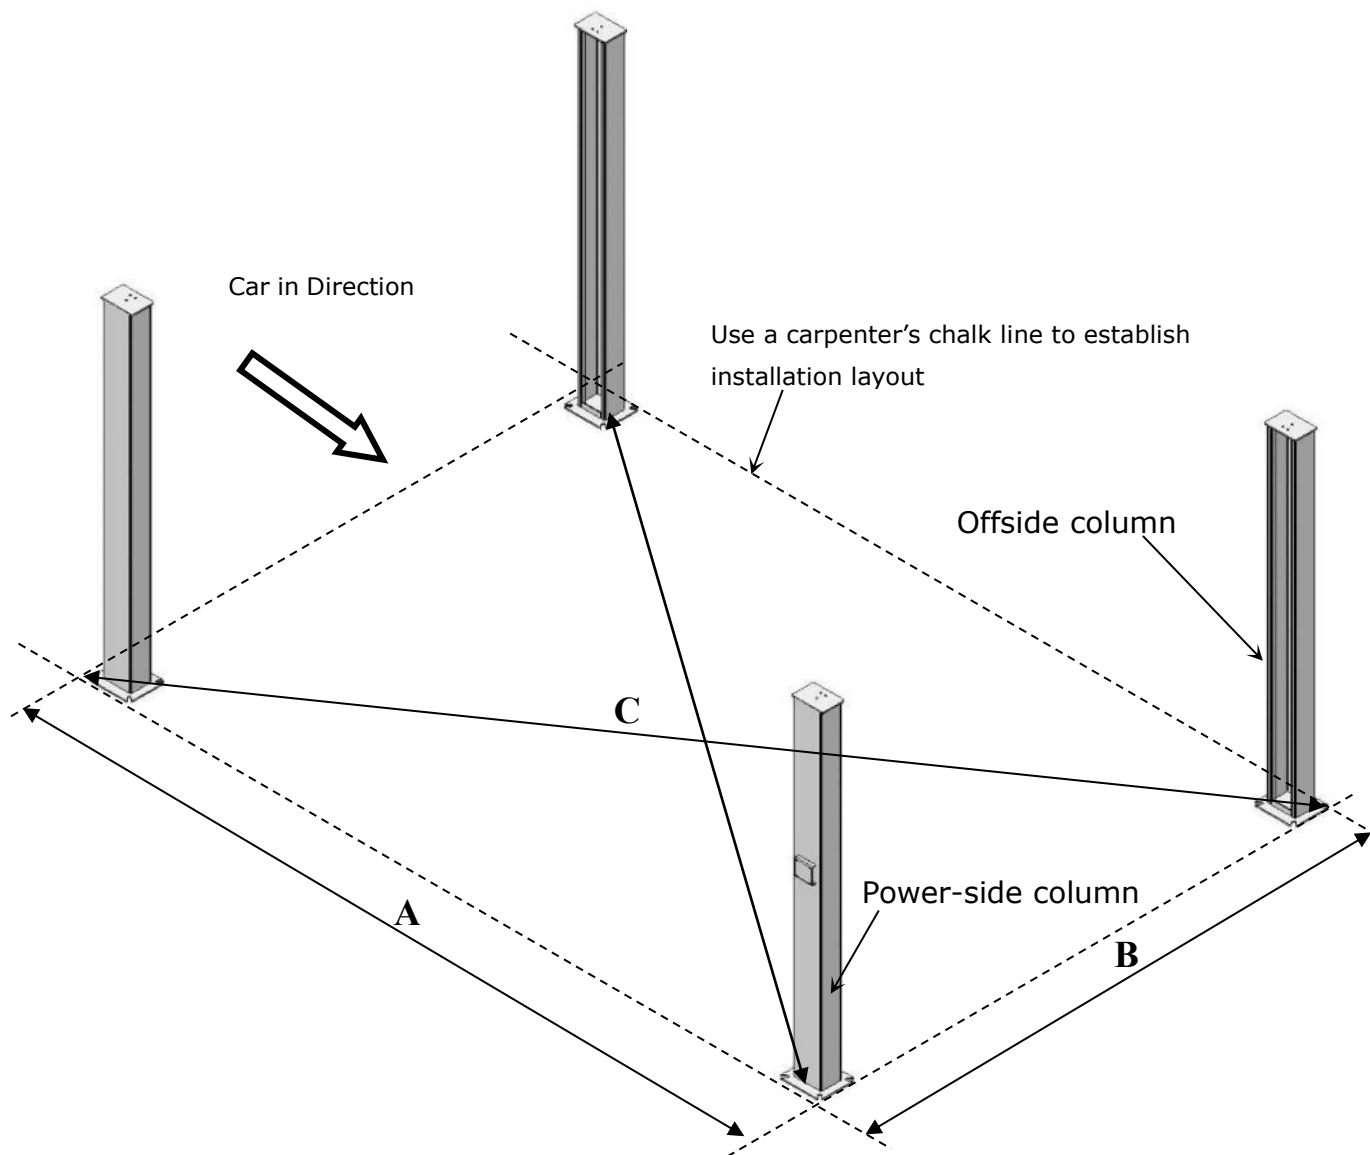

Fig. 12
C. Use a carpenter’s chalk line to establish installation layout , make sure the size is right and base is flat (**see Fig. 12**).